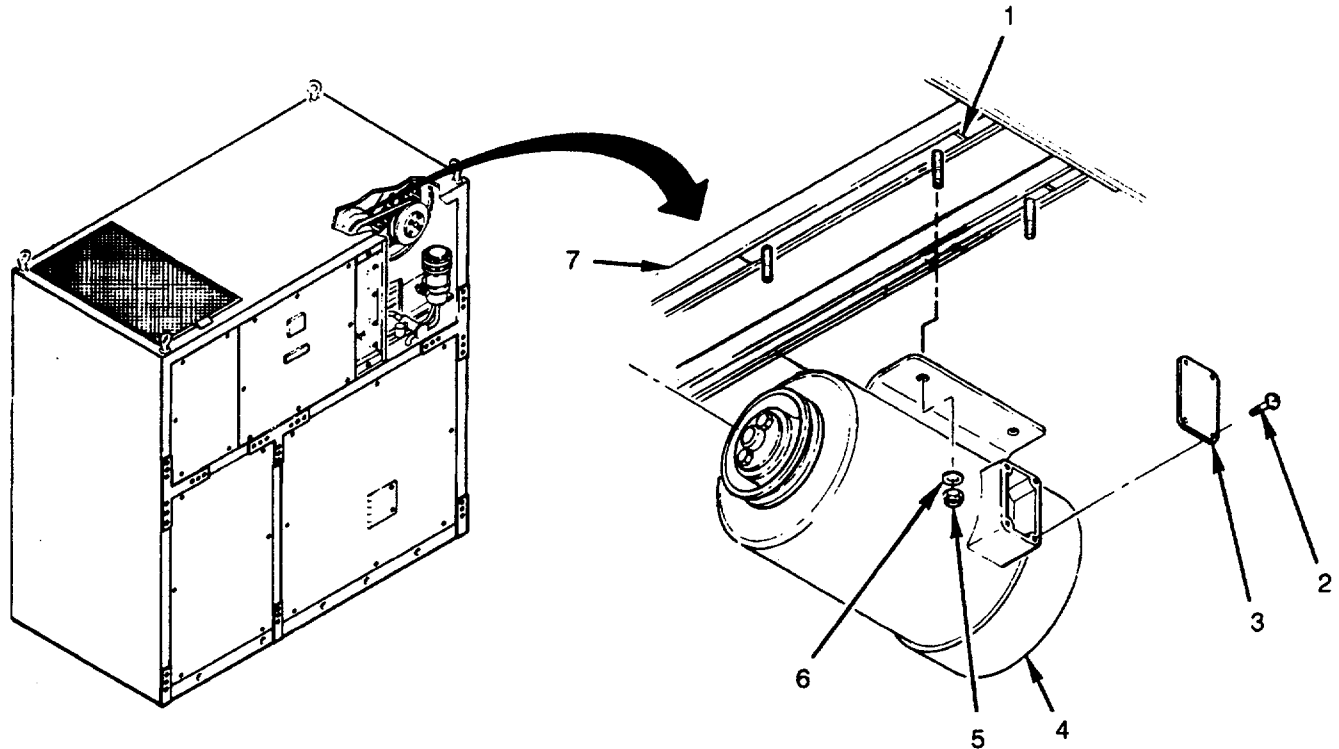

Figure 4-71. Evaporator Motor (B1)
1. Check motor (4) for rotational freedom by spinning shaft. If there is any stiffness or binding, contact Direct Support Maintenance (see Figure 4-71).